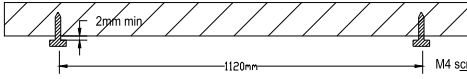

Figure 3
1. Fix two screws on the ceiling, 1120mm away between 2 screws, the space between the screw nut and ceiling must be more than 2mm. (Figure 3)